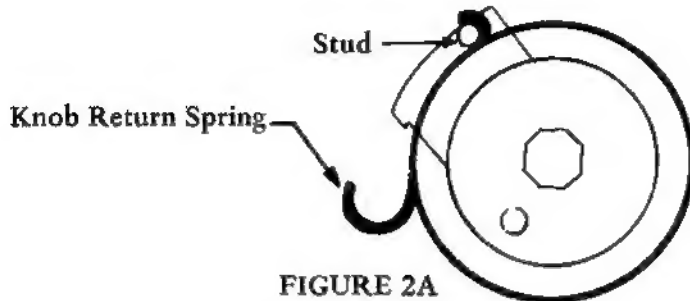

FIGURE 2A
1. Secure the small hook of the new knob return spring onto the mushroom shaped stud of the stop plate assembly. (See figure 2A.)